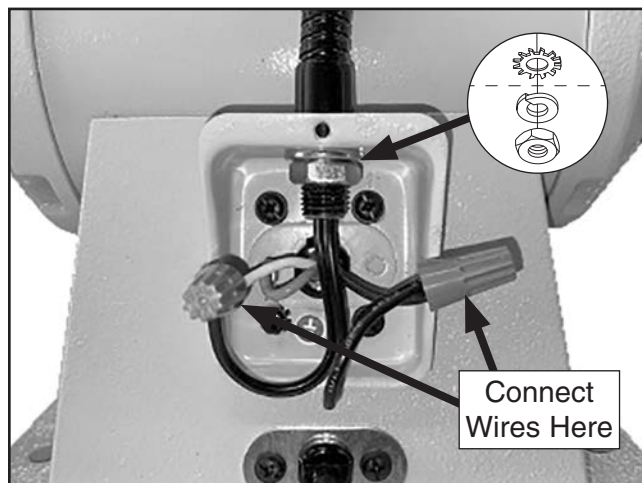

Figure 4. Work light connected to buffer wiring.
3. Use pre-installed hex nut, lock washer, and external tooth washer on work light to attach work light to top of junction box (see **Figure 4**).
4. Use wire nuts from **Step 2** to connect work light wires shown in **Figure 4** (refer to wiring diagrams beginning on **Page 27** in owner's manual. Twist wire nuts onto their respective wires and wrap them with electrical tape so they will not come loose during operation.